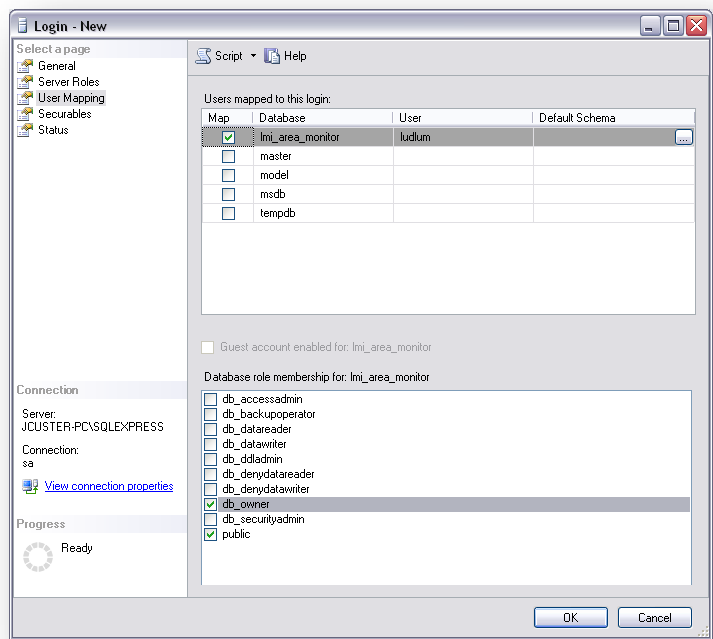

Figure 66 – User Mapping
4. Click “Next” to accept the license agreement. See Figure 66.